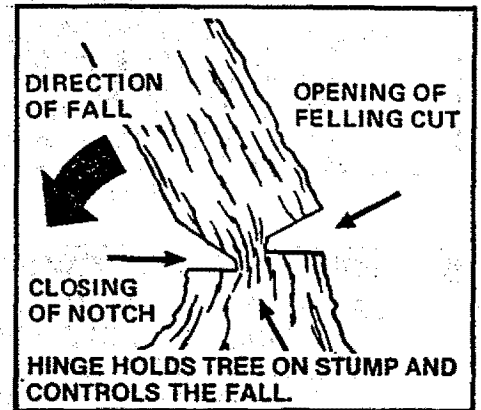

Figure 29
- c. Leave enough uncut wood between the felling cut and the notch to form a hinge. **Figure 29.**